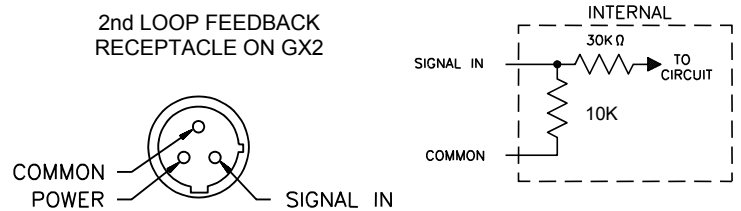

Figure 1
3. See figure 1 and 2 for second loop connections.
2. If Proportion-Air DS series transducer is used as the external feedback source, attach it to the auxiliary receptacle on the GX2 unit. (Figure 1)